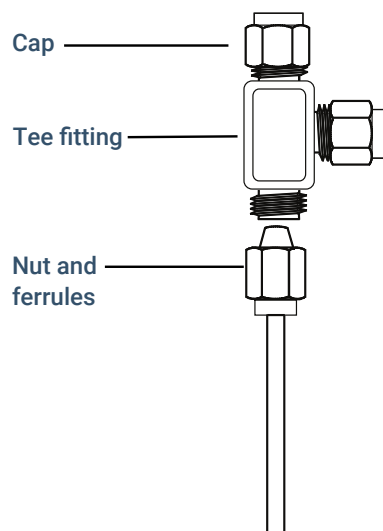

Figure 59. Swagelok tee
1. Cut the tubing where you want to install the Tee. Connect the tubing and Tee with a Swagelok fitting. See **Figure 59**.